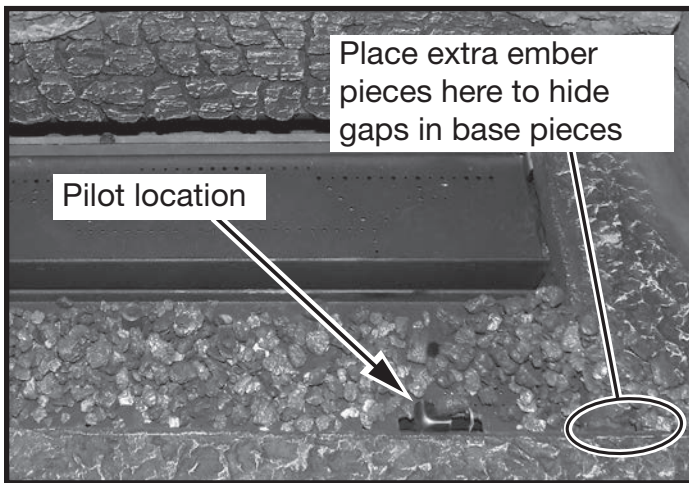
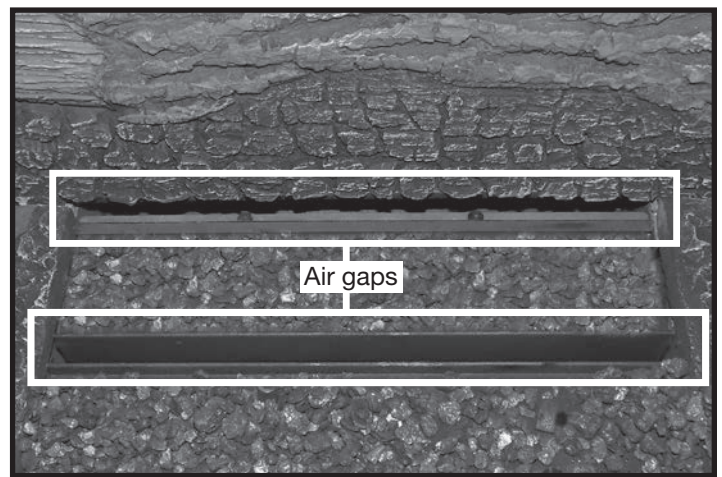

Figure 75: Ember pieces surrounding pilot.
Figure 76: Air gaps.
9. Distribute a thin layer of ember pieces (about 1/4") onto the front burner tray (Figure 75). Place extra ember pieces over the small gaps between the front base piece and the two side base pieces. Keep the ember pieces from interfering with the pilot assembly. Place a layer of ember pieces (about 1/4") onto the rear burner tray to fill it up until it is level with the side and end walls. Keep the ember pieces from falling into the air gaps between the front and rear burners and the gap between the rear burner and the air deflector which supports the first log (Figure 76).